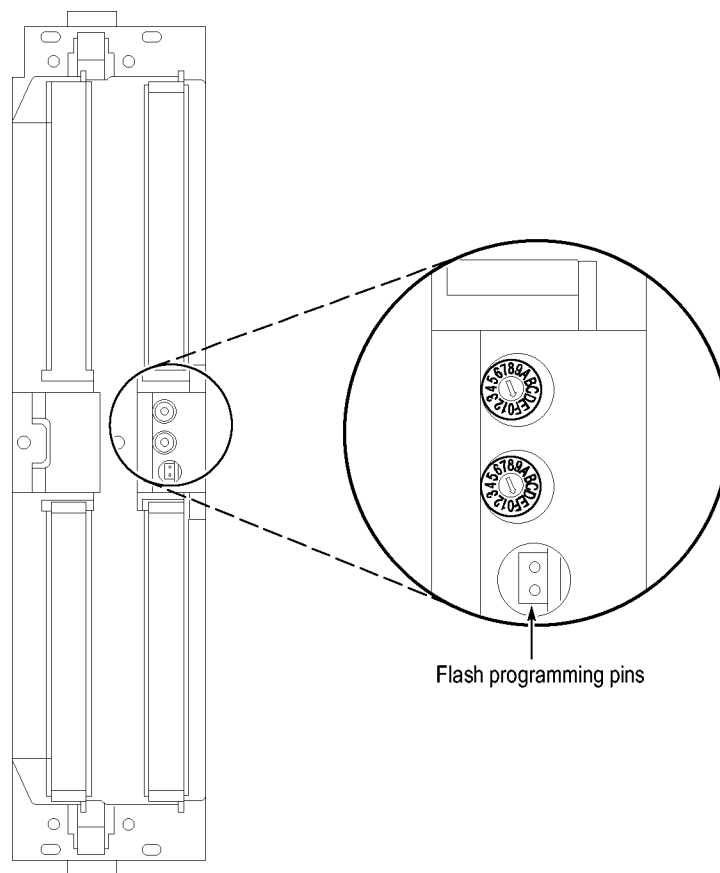

Figure 67: Flash programming pins
4. Locate the flash programming pins on the rear of each module. (See Figure 67 on page 91.)